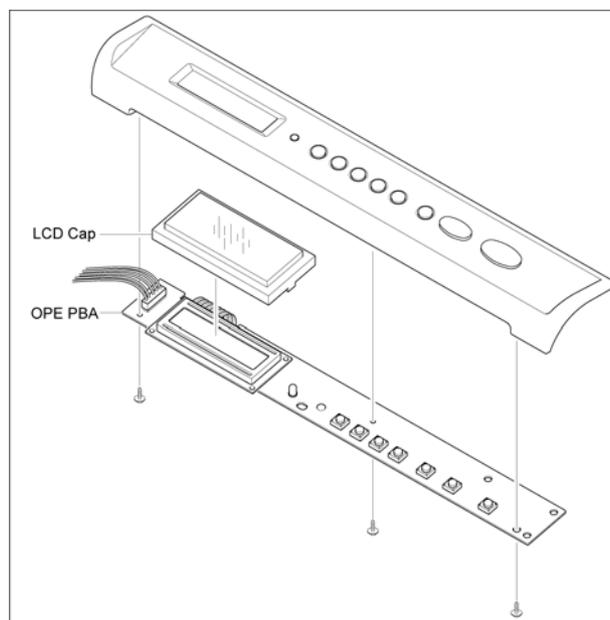

Figure 5
7. Remove 3 screws. Remove the OPE PBA and disconnect CN 1, Figure 5.